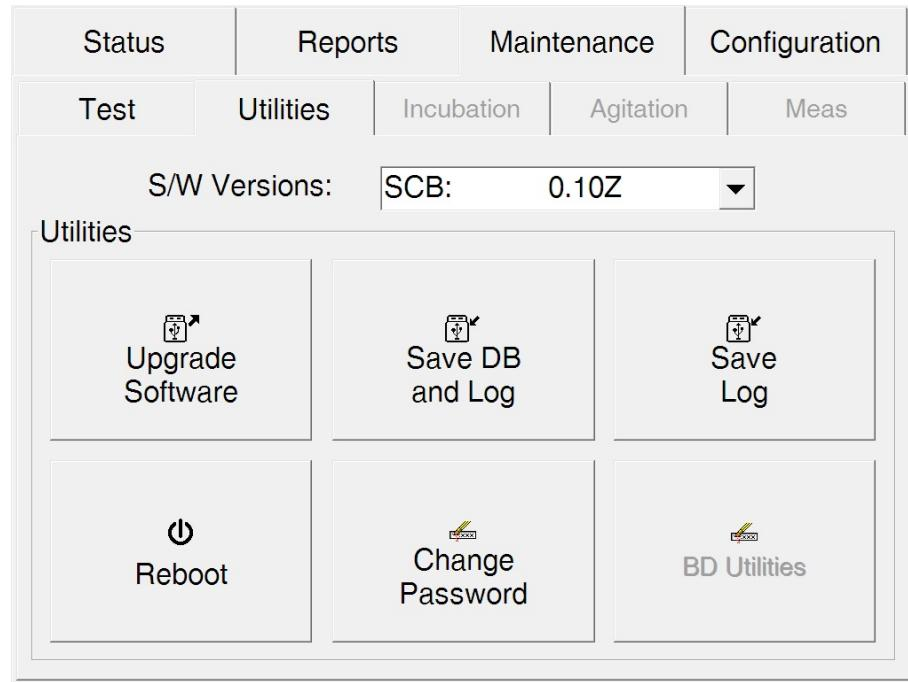
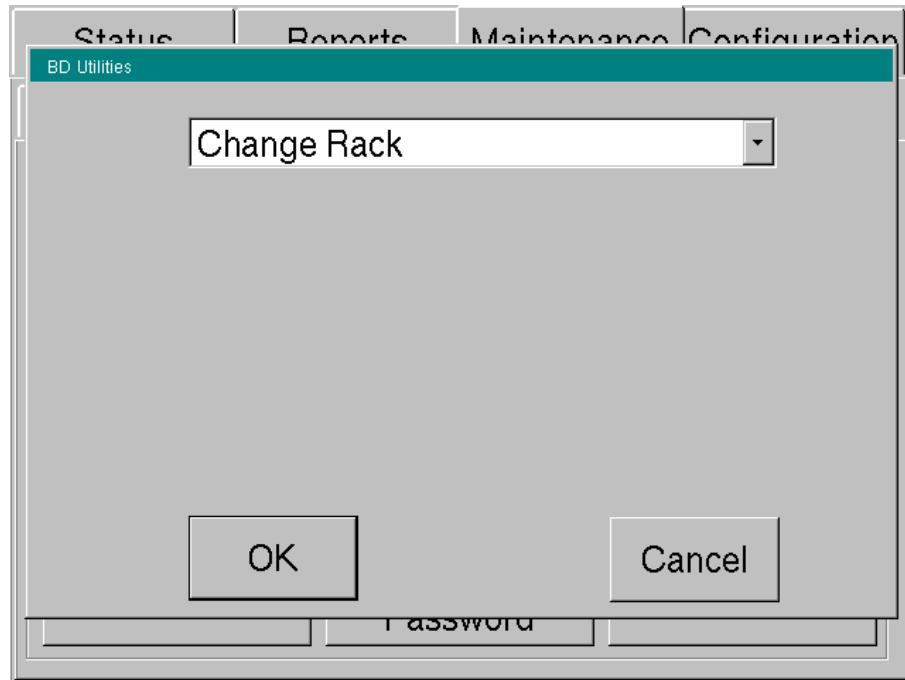

Figure 11
Figure 12
7. Under the Maintenance Menu, select BD Utilities (**Figure 11**) / Change Rack (**Figure 12**).